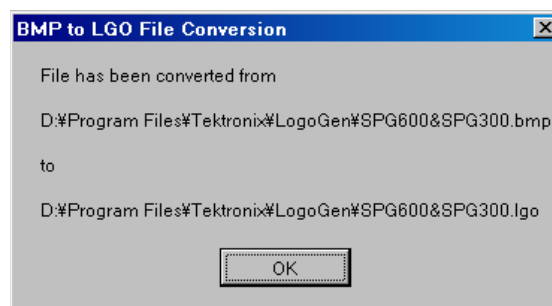

Figure C-4: BMP to LGO File Conversion dialog box
8. Selects **Build > Build Logo File** or click the **Build Logo File** toolbar button to open the BMP to LGO Conversion dialog box shown in Figure C-4.